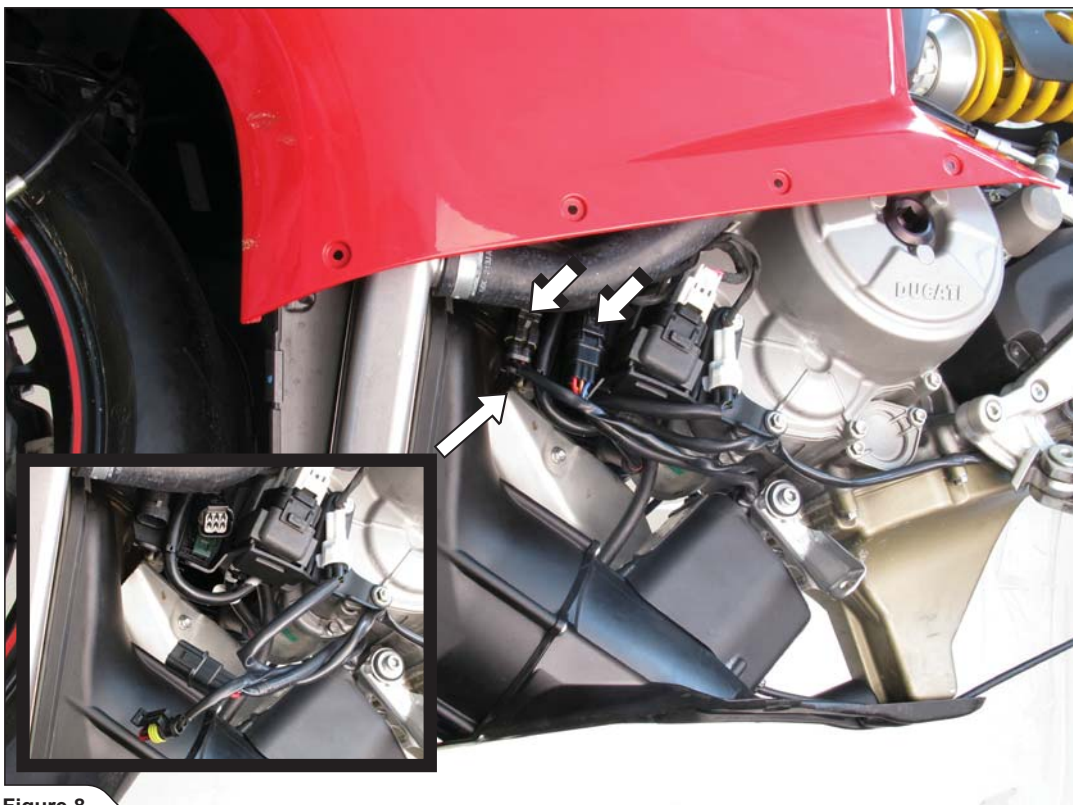

Figure 8
7. Disconnect the marked connectors (**Figure 8**).